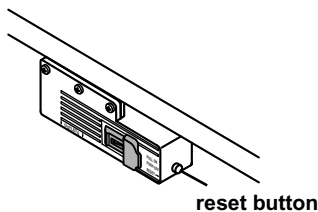

Figure 17
4. Push the reset button to reset it. See Figure 17.